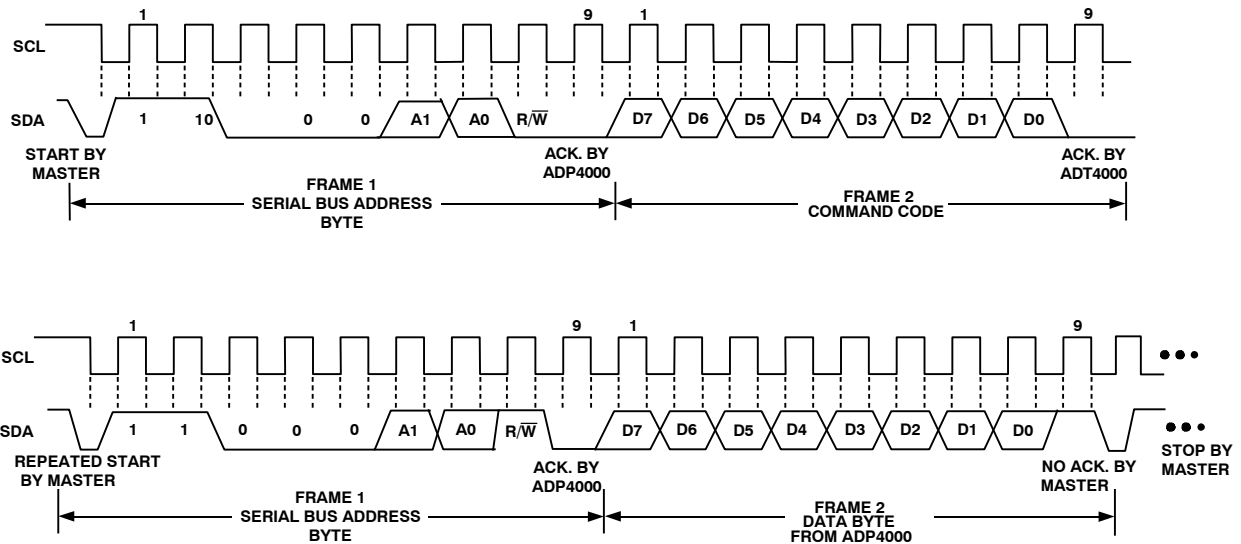

Figure 13. Read Byte
2. The read byte operation is shown in Figure 13. First the command code needs to be written to the ADP4000 so that the required data is sent back. This is done by performing a write to the ADP4000 as before, but only the data byte containing the register address is sent, because no data is written to the register. A repeated start is then issued and a read operation is then performed consisting of the serial bus address;  $R/\bar{W}$  bit set to 1, followed by the data byte read from the data register.